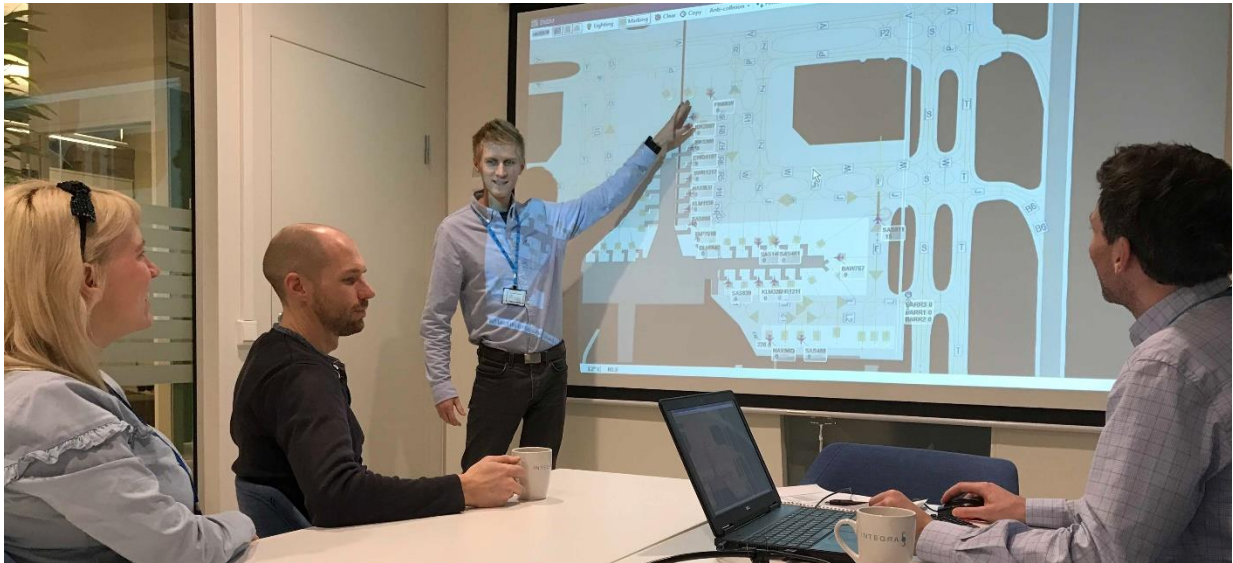

Figure 1: Discussing Airport Operations in Low Visibility
- Connect to a projector (see figure 1 above).